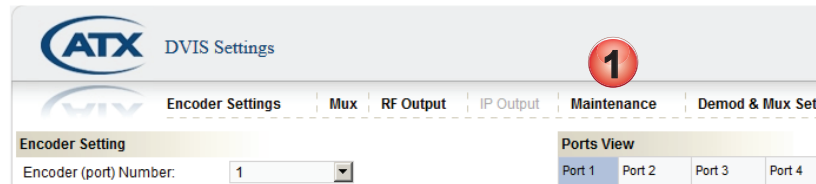

Figure 5-6: Use Maintenance Tab for IPv6 Setup
1. If an IPv6 address is required for your application, click the **Maintenance** tab of the GUI, Figure 5-6.